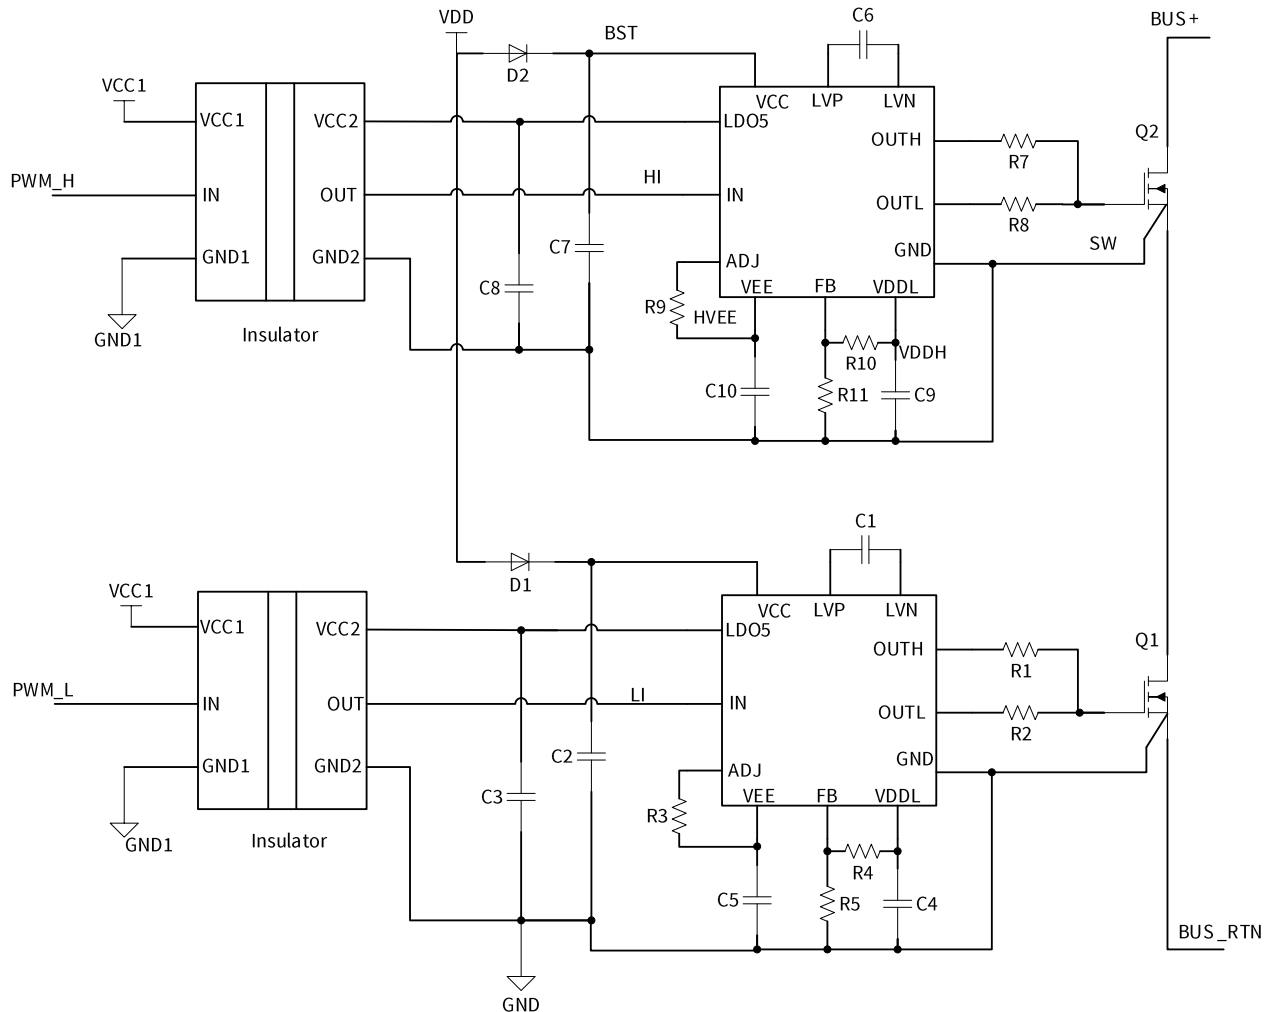

Figure 8.1 Typical Simplified Application Schematic
Figure 8.1 shows a typical half-bridge configuration by using the NSD2012N.
If the bootstrap diode is used to provide the voltage for high side driver in Figure 8.1, the startup time sequence of mode (b) is recommended.
The gate of GaN HEMT will be pulled up to VDDL through the drive resistor during turn-on and pulled down to VEE through the drive resistor during turn-off. To prevent the gate voltage overshoot of GaN HEMT, it is recommended that the gate turn-on driver resistor is more than $2\sqrt{\frac{L_G}{C_{GS}}}$ and turn-off resistor is more than 1Ω . L_G is the drive loop inductance and C_{GS} is the gate capacitance of GaN HEMT. The power loss of driver resistor in Figure 8.1 can be calculated with equation (2) and (3) and the power loss of NSD2012N can refer to equation (4).